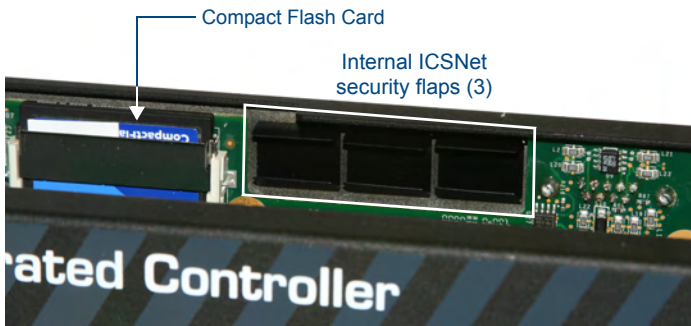

FIG. 6 ICSNet security flaps (rear panel, inside view)
1. Inside the enclosure, locate the 3 internal ICSNet cover plate security flaps (FIG. 6).